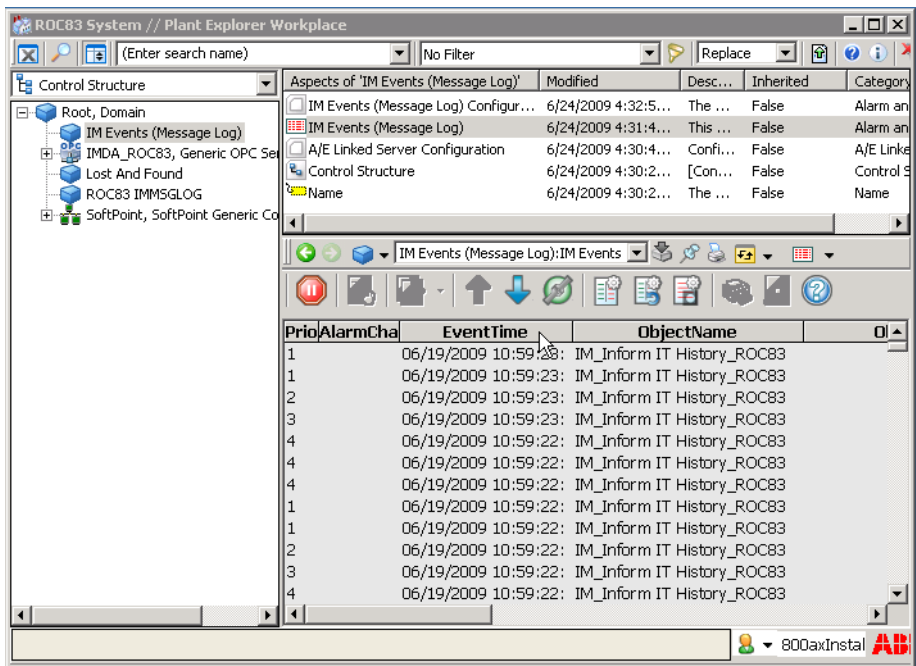

Figure 4. Accessing the Runtime Attribute Filter Dialog Box
1. Navigate to the Main View of the Alarm and Event List aspect (named IM Events (Message Log) in the example shown in Figure 4).